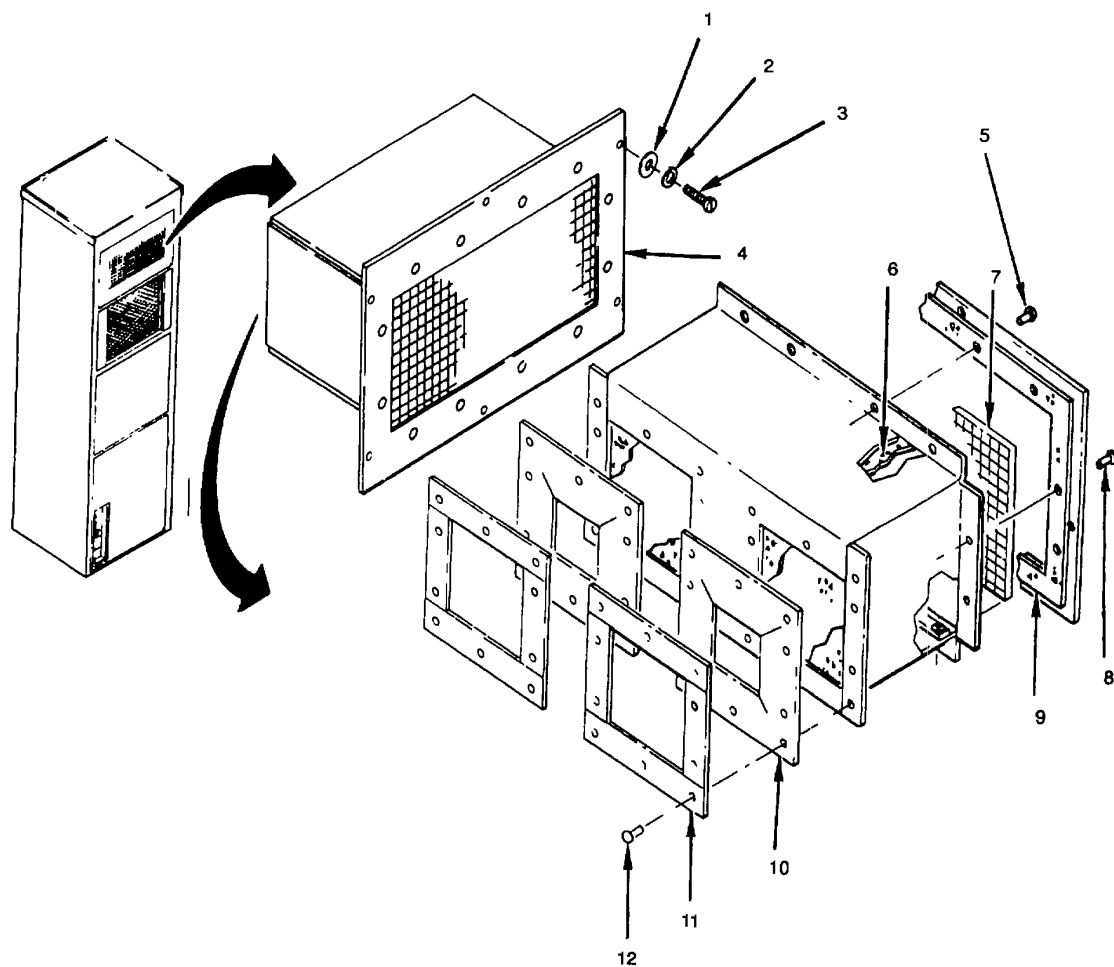

Figure 4-13. Evaporator Duct Panel
- a. Remove six screws (3), lockwashers (2), and flat washers (1) (see fig. 4-13).
- b. Remove panel (4)